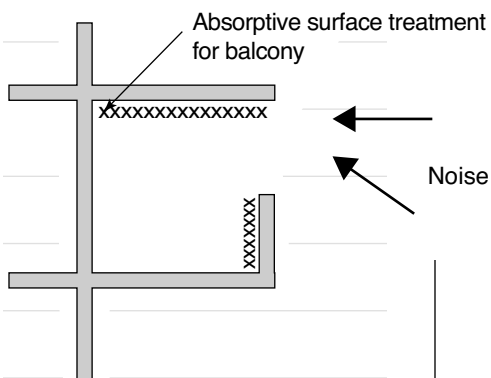

FIGURE 24
- ◆ If outdoor noise is slightly too high, use a solid balcony railing with an absorptive surface facing the balcony. Apply absorptive surface treatment to the underside of the balcony above and to any other balcony surfaces, if possible (see Figure 24).